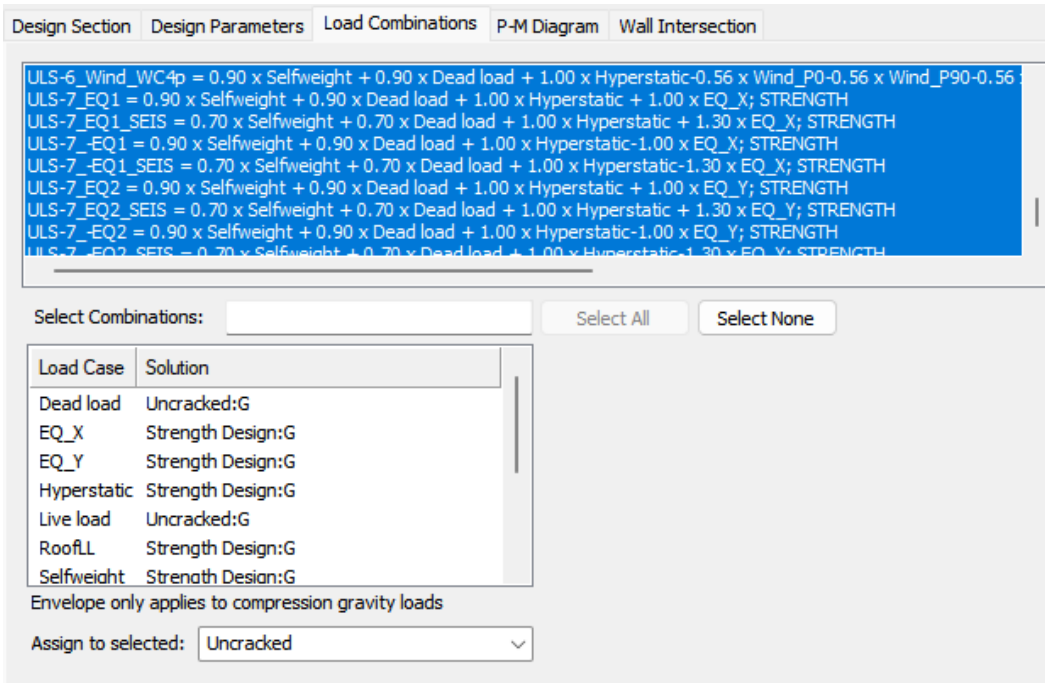

FIGURE 16-6
- In the *Load Case* and *Solution* window, click on each of the load cases. For the *Dead* and *Live* load cases, select the **Uncracked: G** option. If this option is not available, you will have to run a multi-level analysis for the uncracked usage case for those reactions to become available. This will set the reactions to be used as those solved for the *Uncracked* usage case. For all other load cases set the option to **Strength Design: G**. This will set the reactions for the *Strength Design* usage case, as shown in **FIGURE 16-6**.